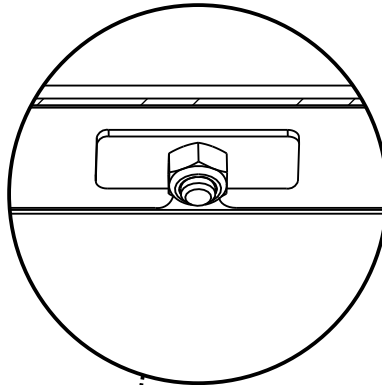

FIGURE 4
2. ALIGN THE LOADSPREADER PLATES WITH SIDE PANEL EDGE. (SEE FIGURE 4)